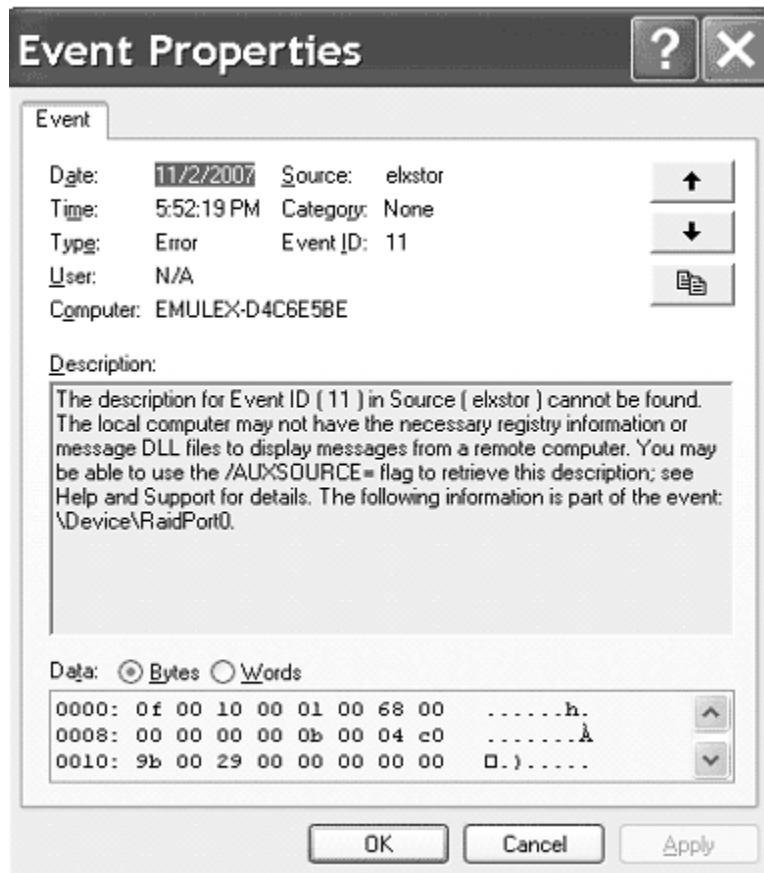

Figure 6: Event Properties
3. Examine the entry at offset 0x10 and Event ID 11. The Emulex event code is found in byte 0010 and supplementary data is in the byte offsets 0011 through 0013 (in example Figure 6, byte 0010 = 9b, byte 0011 = 00, byte 0012 = 29 and byte 0013 = 00).